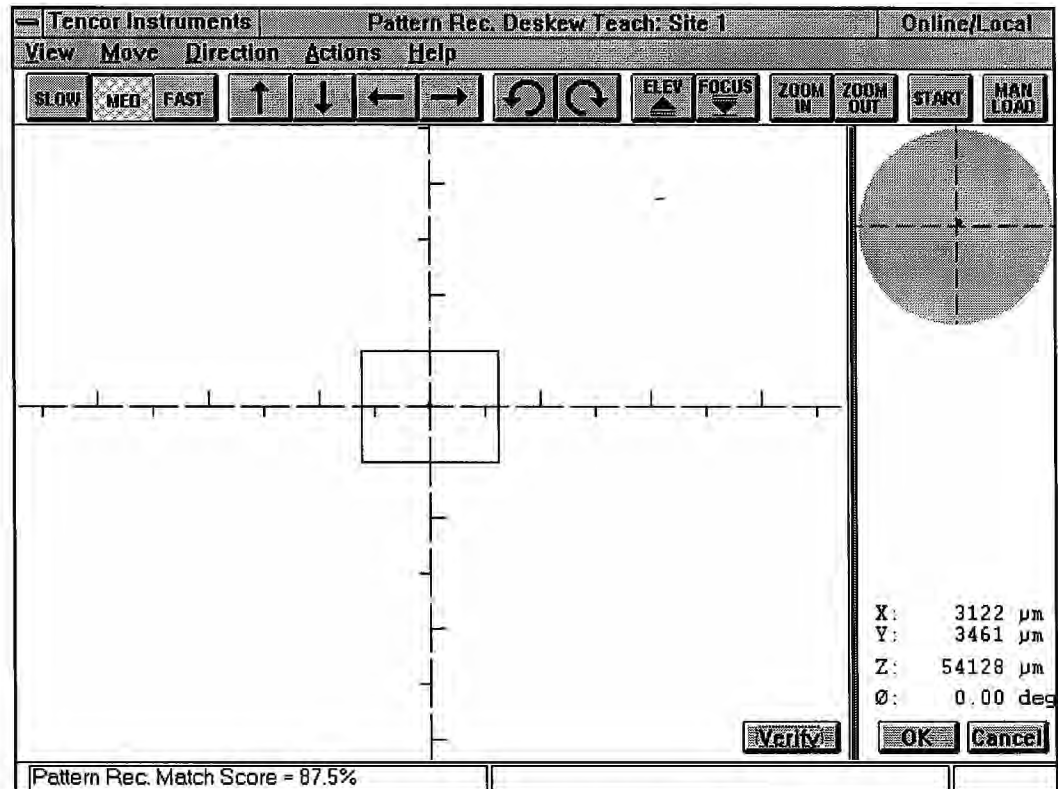

Figure 8-17 Pattern Rec. Deskew Teach Window After Teach
- The blue box remains on the window with a darker blue dot in the center. The stage moves until the selected feature is centered in the cross hairs (Fig. 8-17).